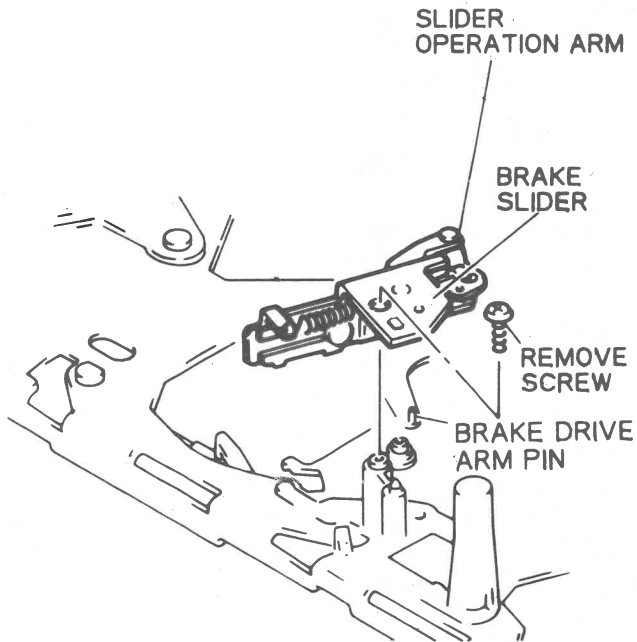

Fig. 30 Brake Slider Removal
**Brake Slider Removal (Fig. 30)**